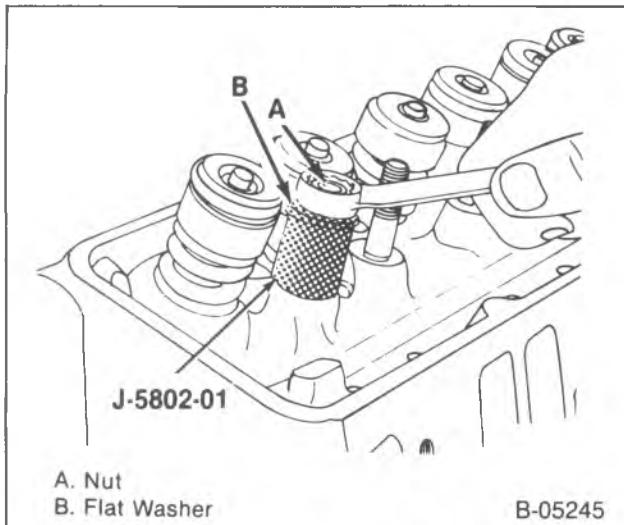

Figure 36—Removing the Rocker Arm Stud
1. Place tool J-5802-01 over the stud to be removed. Install a nut and flat washer. Remove the stud by turning the nut (figure 36).